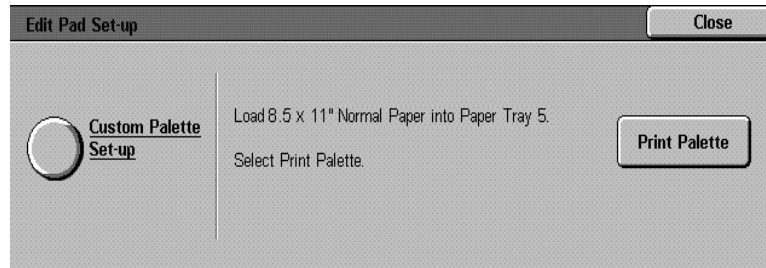

Figure 7: Edit Pad Set-up screen
- 2 Touch the **Edit Pad Set-up** button to display the **Edit Pad Set-up** screen (Figure 7).